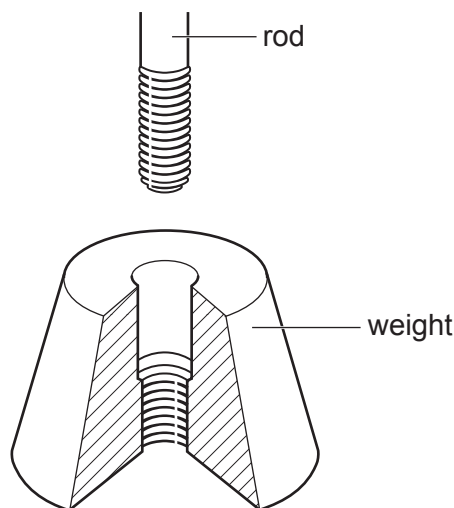

Fig. 12.6
- (f) Fig. 12.6 shows how the $\text{Ø}3$ mild steel rod will be joined to the mild steel weight by means of a screw thread.